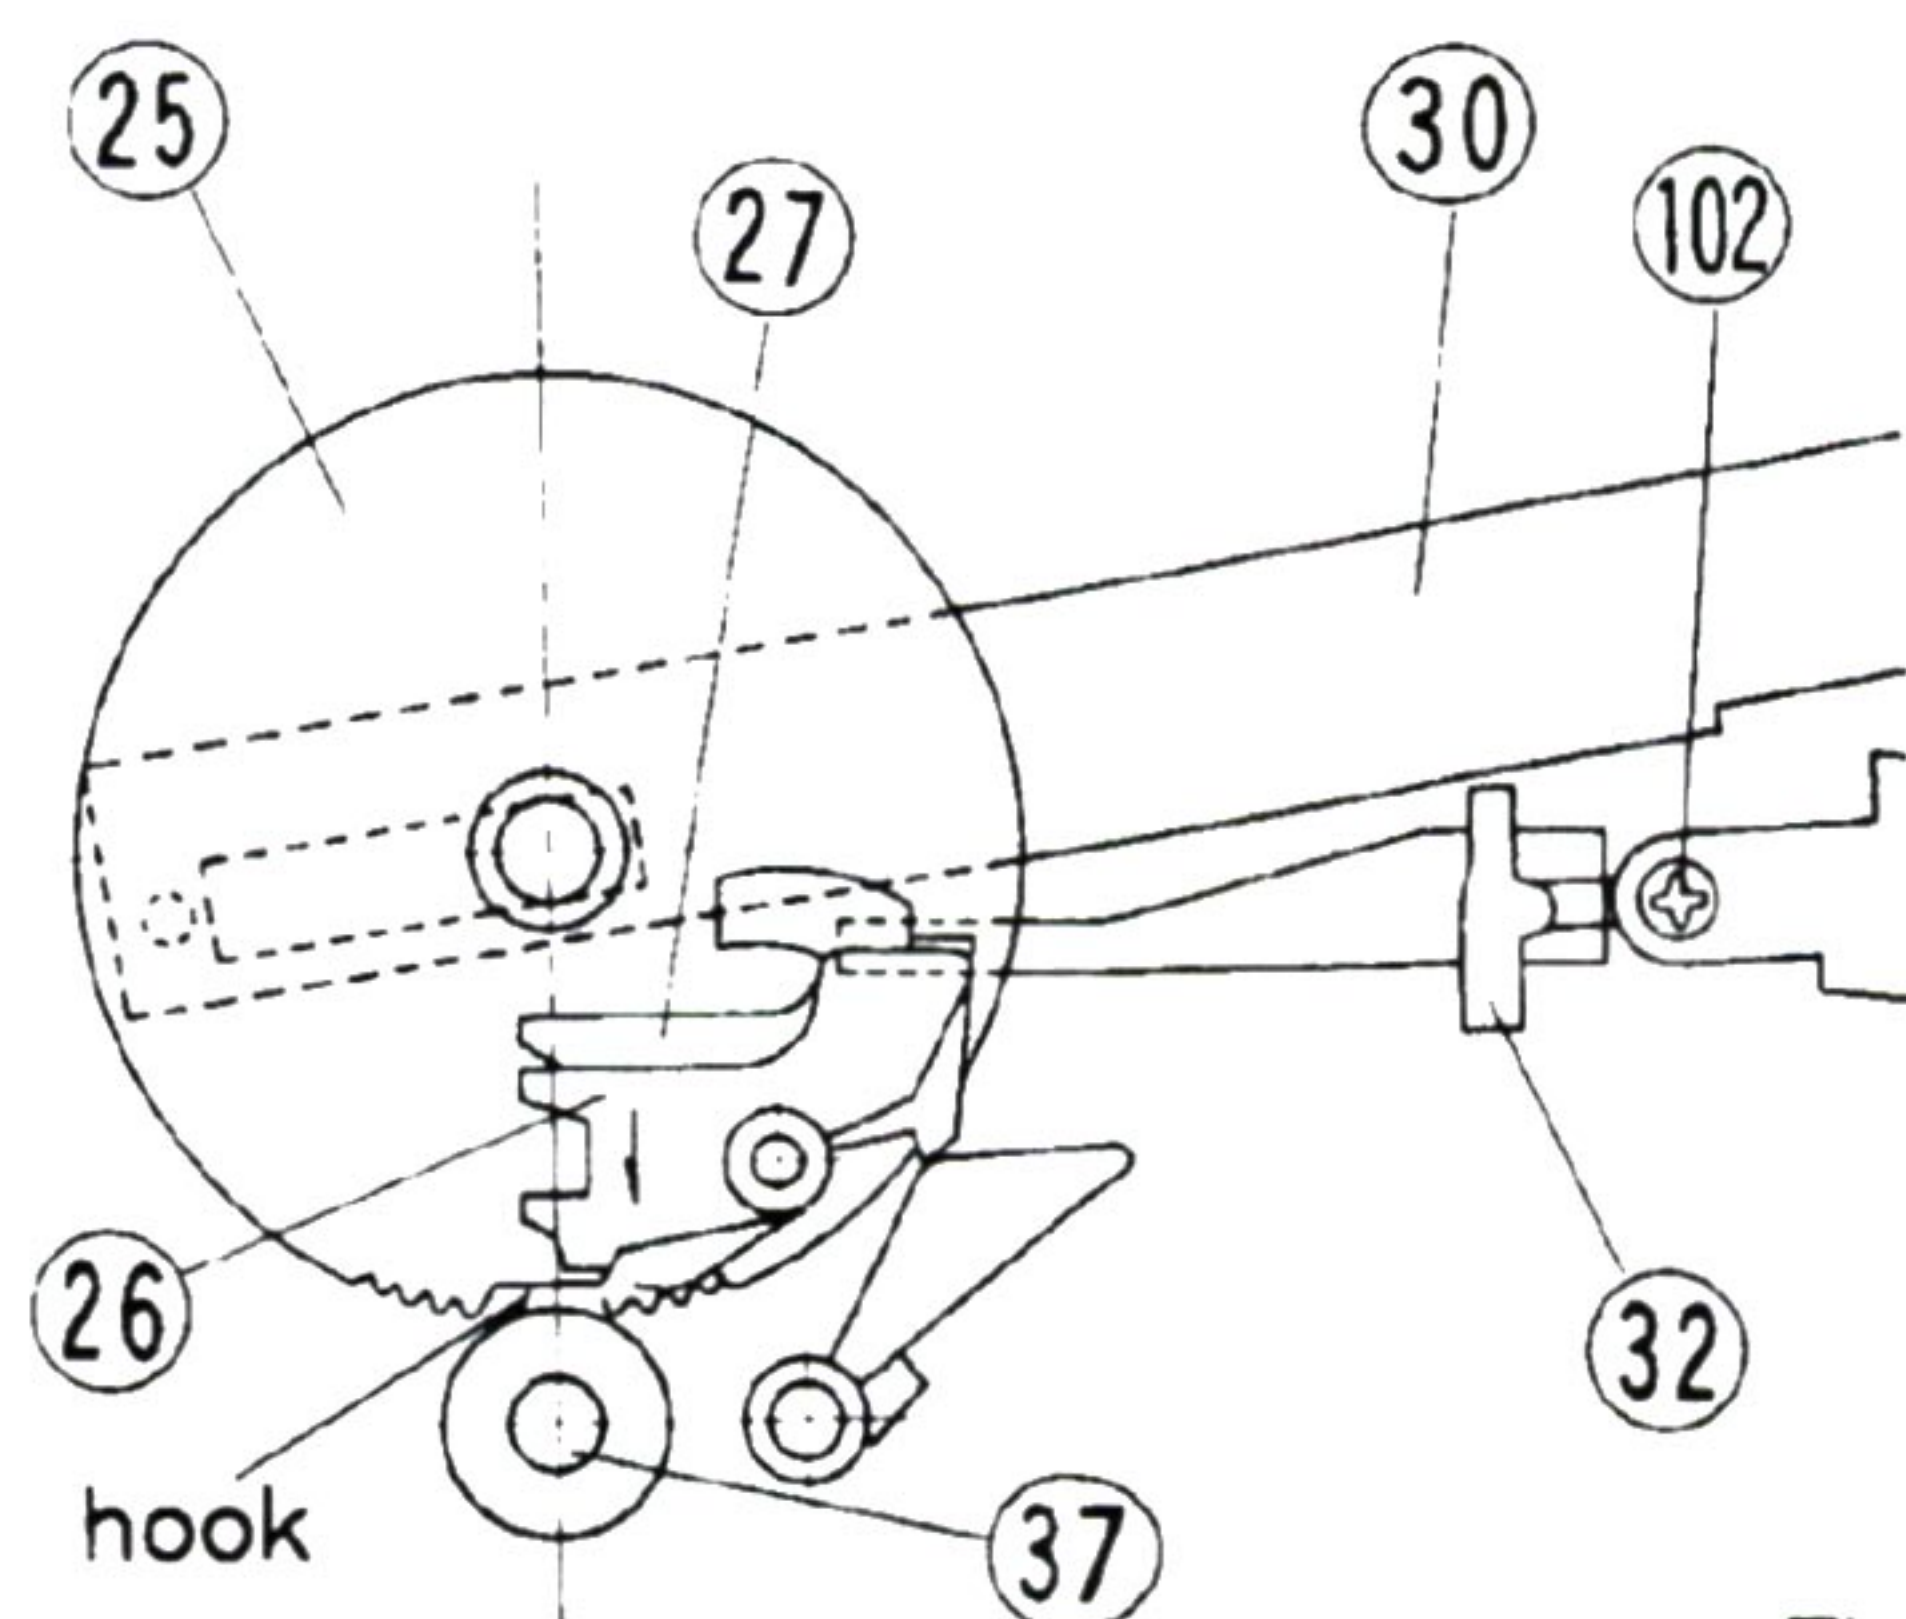

Fig. 3
- 1) Set CUEING Button (3) to the up position.
- 2) Turn the adjusting screw of Arm (32) so that Cam (27) trigger and hook of Turntable shaft (37) gear match with Stylus (42-1) tip between R61.5mm–62mm away from Turntable shaft (37) (Fig. 3).
- 3) After this adjustment check that Tonearm (43) returns to the original position at the end of the completed program on the disc.